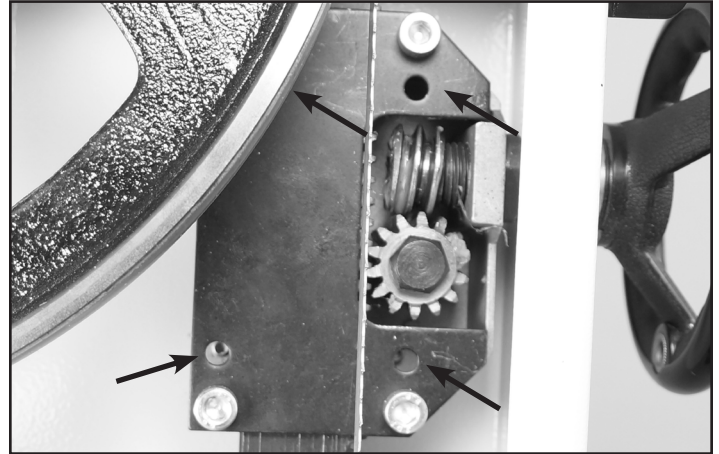

FIGURE 31 NOTE: Gear Guard removed for photo purposes
3. Open the top door and lower the blade guard all the way down to the table to access the Guide Bracket (#4C). Fig. 31.
5. There are also four Set Screws (#5C) set in the rear of the guide bracket near the corners. If the guard post needs to be angled slightly towards the front or back of the table, or even twisted on an angle, make the adjustment with these screws. Fig. 31.